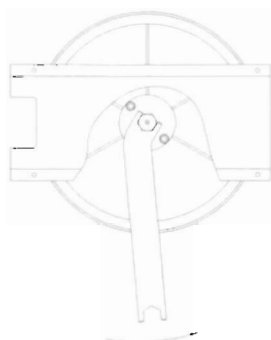
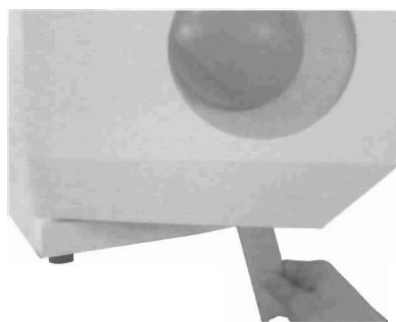

Fig 1
Fig 2
7.4.2 Insert the spanner in the gap beneath the plastic cover; use the spanner to lock on the adjusting nut (Fig 1). Turn the nut counter clockwise as the figure below (Fig 2). This will tighten the sealing plate.